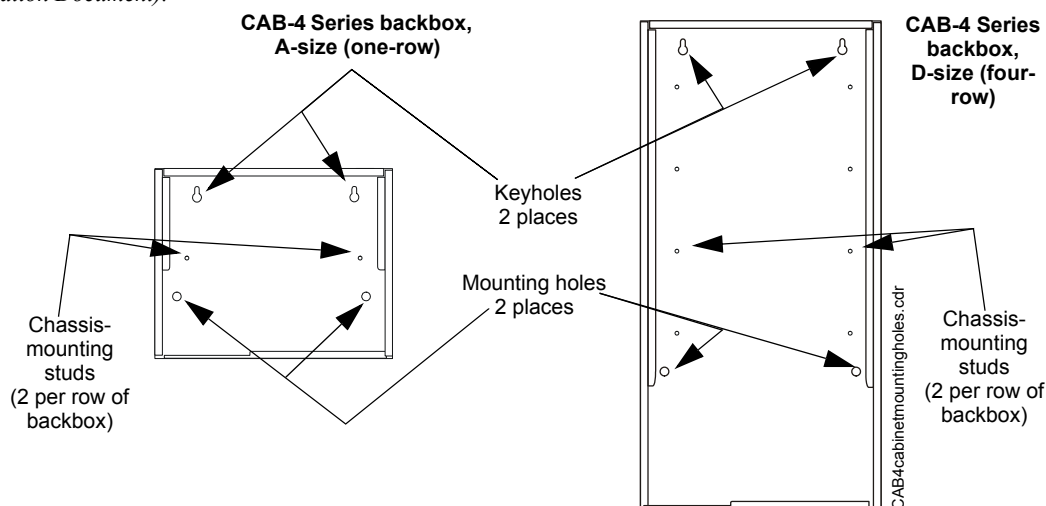

Figure 3.1 Backbox-Mounting Holes and Chassis-Mounting Studs
- Use the four holes in the back surface of the backbox to provide secure mounting (See Figure 3.1).
Align chassis-mounting slots with chassis-mounting studs (see Figure 3.1 and Figure 3.5 for locations). Secure with nut & lock-washer provided with chassis.